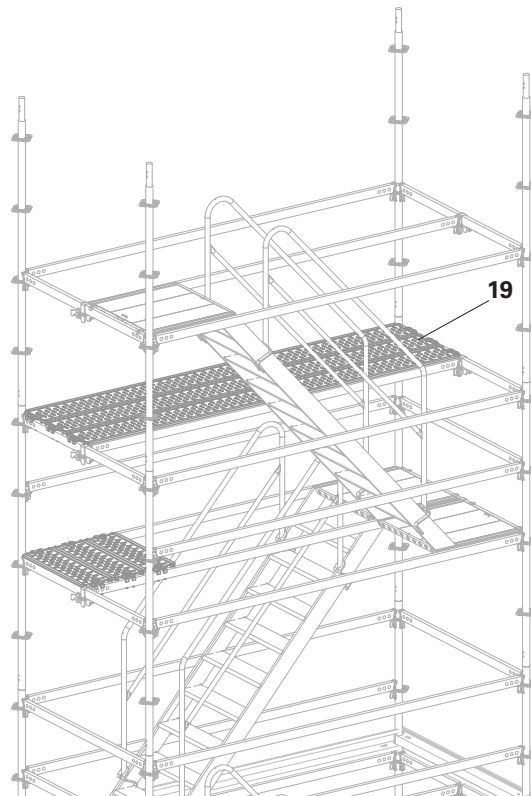

Fig. B5.03
2. Raise Steel Decks UDG-2 (**19**) to the position shown. (Fig. B5.03)